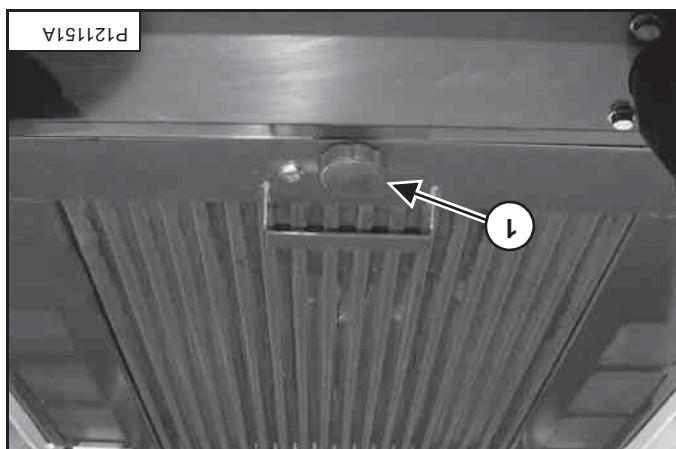

Figure 42
Install the clamping knob (item 1) [Figure 42].